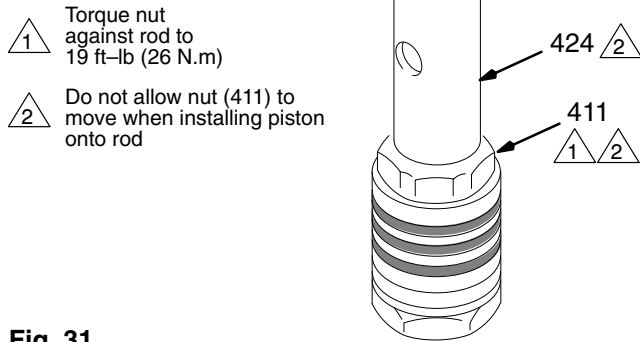

Fig. 31
- Use a wrench to **CAREFULLY** tighten the nut (411) against the piston rod to 19 ft-lbs (26 N.m). See Fig. 31.